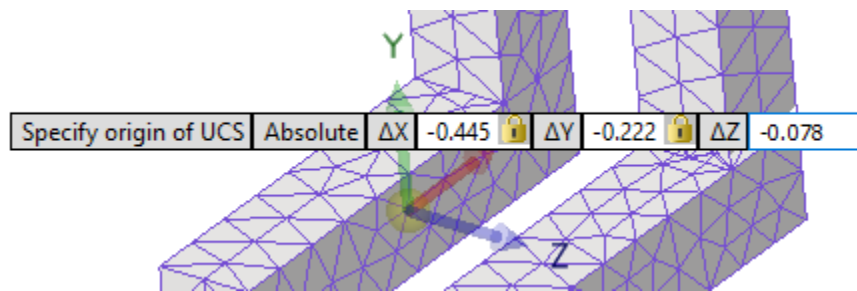

Figure 68 - Enter the UCS coordinate.
3. Type the coordinates. See Figure 68.